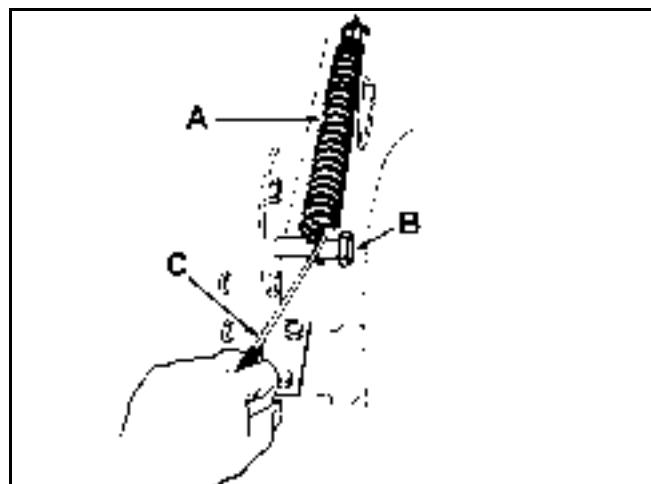

Figure 227
- Remove the height-of-cut lift assist spring from the retaining bolt (Figure 227), using the spring tool provided with the machine. The spring is between the frame and the right rear wheel.
14. Move the height-of-cut lever (deck lift) into the "D" notch. Hook lift assist spring onto retaining bolt for storage (Figure 227).